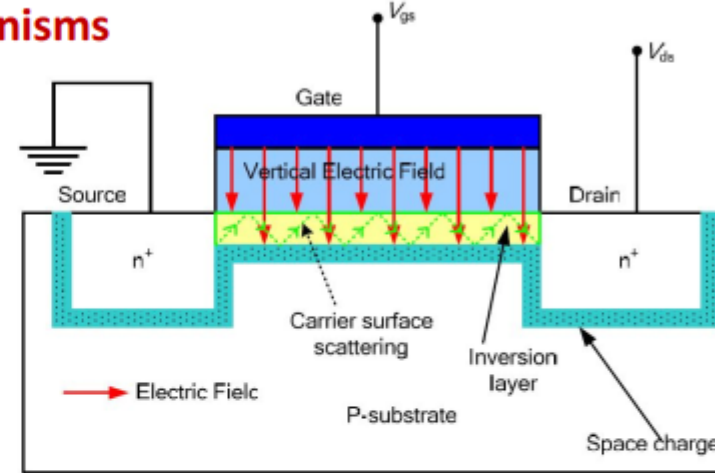

Figure 2: Vertical electric field in a short channel MOSFET and due to that surface scattering
- When carriers move within the channel under the effect of horizontal electric field, they feel the effect of gate induced vertical electric field, pushing carriers towards the gate oxide as shown in figure 2.